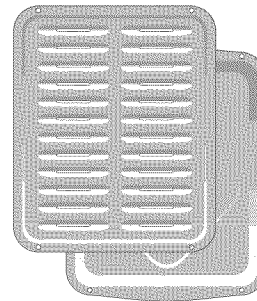

Figure 33: Broiler pan/insert
- For best results when broiling, use a broil pan with broil pan insert designed to drain the fat from the food and help avoid spatter and reduce smoking (Figure 33). To purchase them, call Sears at 1-800-4-MY-HOME (1-800-4663) and order broil pan kit 5304442087.